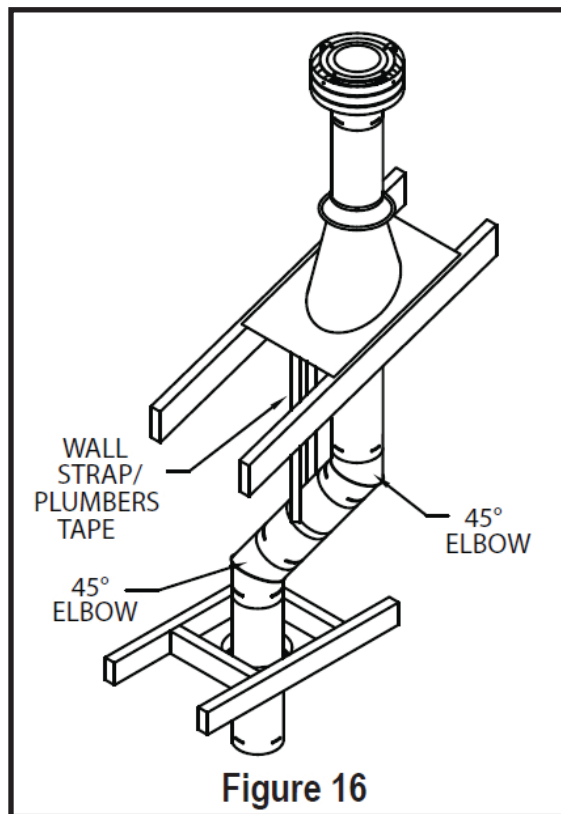

Figure 16
- (1) If exact lengths or distances must be met between Elbow offsets or elsewhere, use the Pipe Extensions to adjust onto standard Pipe Sections
- (2) If an offset is necessary in the attic to avoid obstructions, it is important to support the vent pipe in order to avoid excessive stress on the Elbows. Wall Straps or plumbers tape may be used for this purpose (Fig. 16).
- (3) Wherever possible, use 45° Elbows instead of 90° Elbows. The 45° Elbow offers less restriction to the flow of flue gases and intake air.